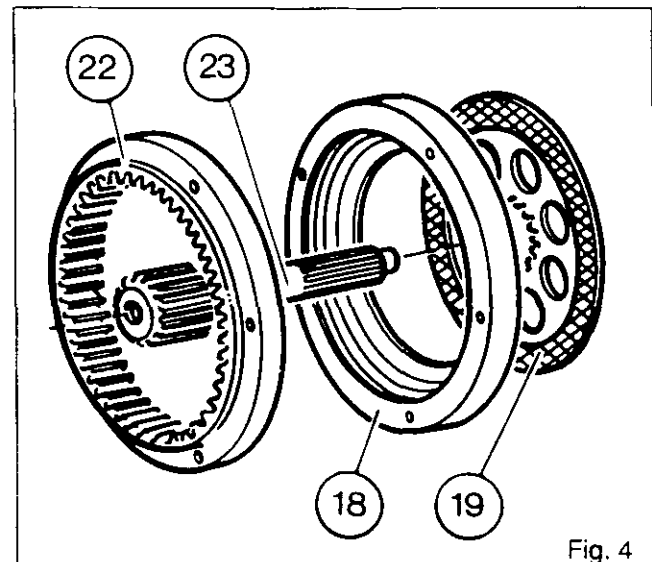

Fig. 4
18. Check that the disk (27) slides freely on the planetary shaft (25) (Fig.4).
19. Refit the locating dowel (28), the planetary shaft (25) and the brake disc (27).
21. Refit the brake plate (26) in the trumpet housing.
**NOTE: To retain the plate, apply three spots of "Amber Technical" or equivalent grease to the surface of the ring gear (10).**
**Note: Turn the shaft (2) to engage the planetary shaft (25) in the planetary gears (18)**
23. Clean the bolts (32) and coat them with Plastex, Hylomar or an equivalent gasket sealant.
24. Fit and tighten the bolts (29) to a torque of 170 - 210 Nm.